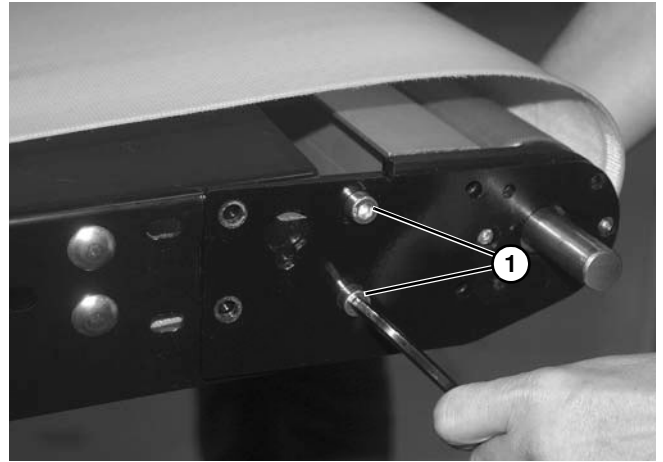

Figure 117
5. Remove drive tail end from conveyor frame by further loosening two screws (**Figure 117, item 1**) on both sides of conveyor.